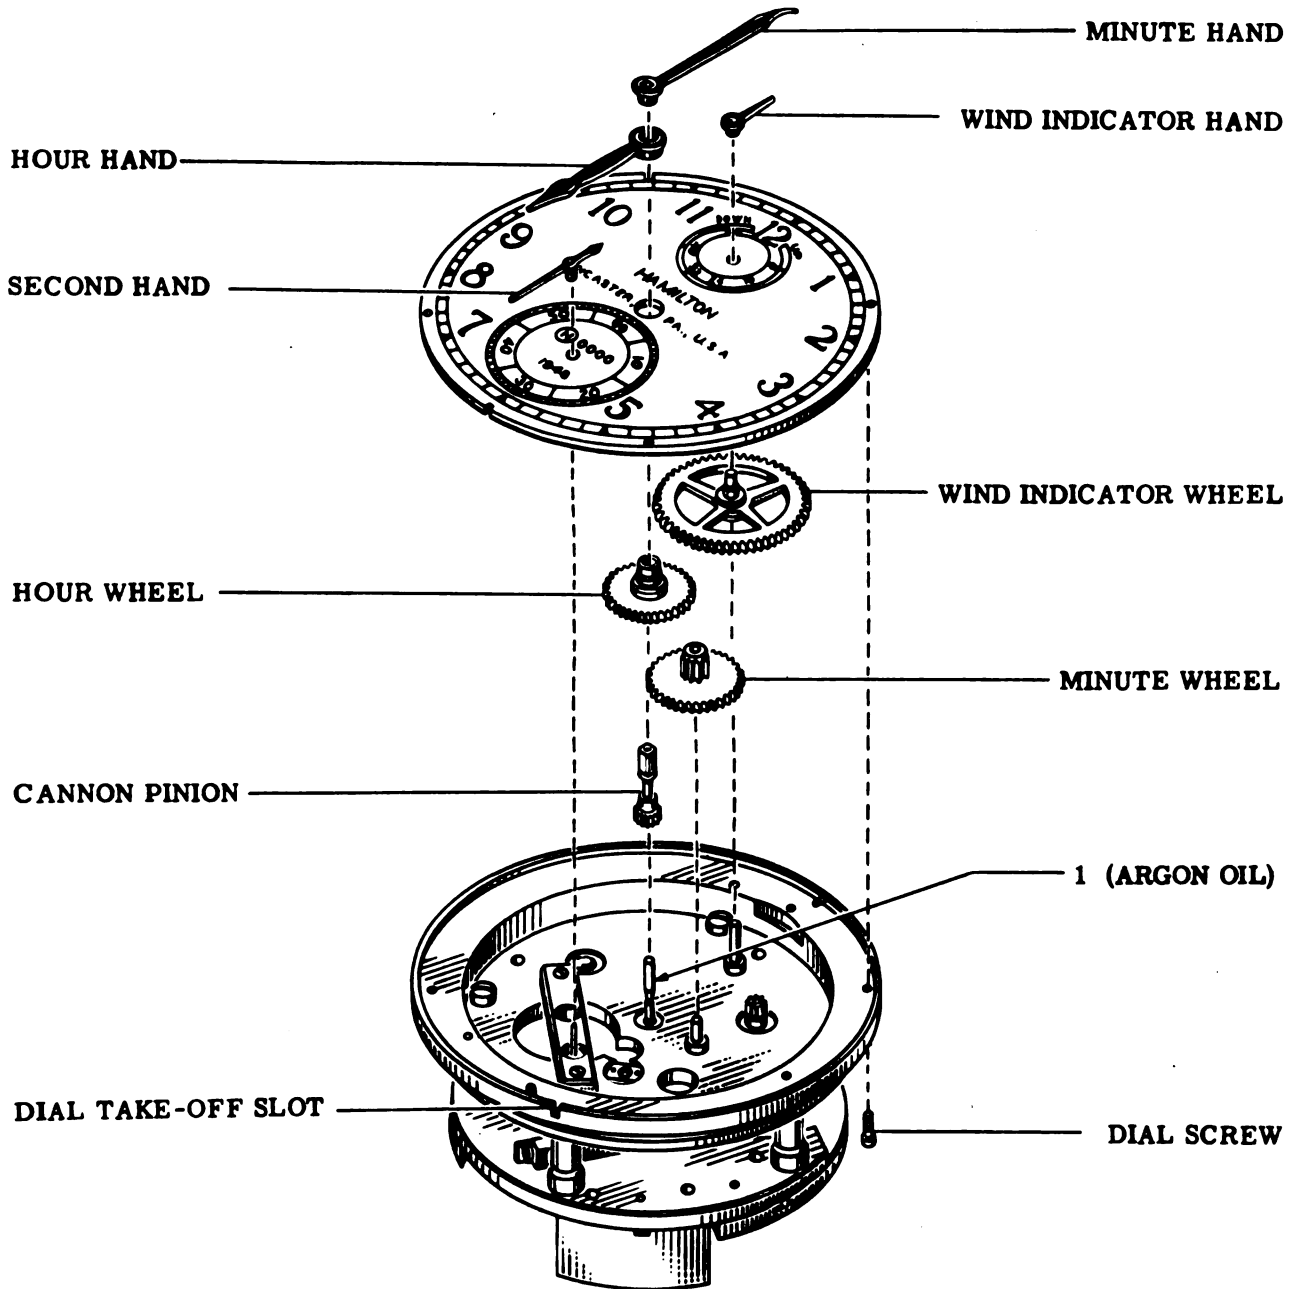
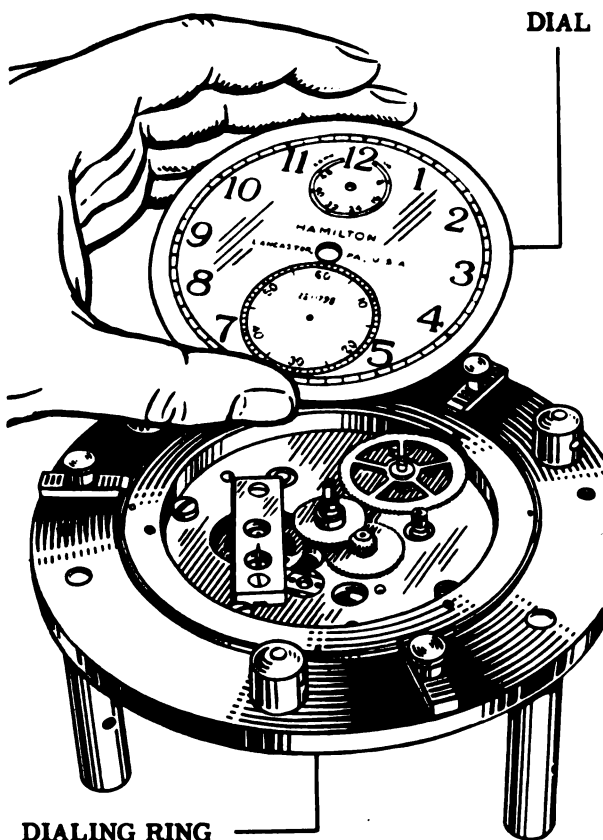

Figure 81
Figure 82
58. Turn movement over. See position in dialing ring in Fig. 82. Oil the cannon pinion bearing of the center staff with argon oil. See arrow No. 1 in Fig. 81. Install the cannon pinion. If new pinion, indent using cannon pinion closer, Tool 33. Check friction of the cannon pinion by putting the minute hand in place and moving it in counterclockwise direction. Remove the minute hand.
59. Install the minute wheel, hour wheel, wind indicator wheel as shown in Fig. 81.
60. Place the dial in position. See Fig. 82.
62. Turn the movement over. Install the wind indicator hand with pointer in "UP" position, using small punch, Tool No. 37. Refer to Fig. 81.